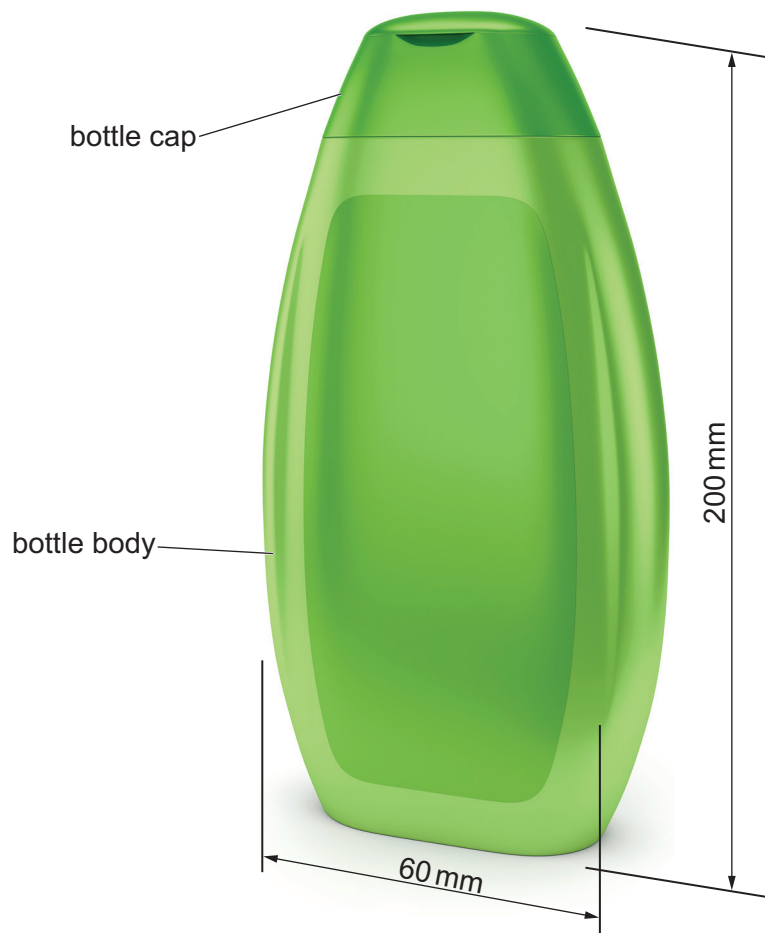

Fig. 3
3 Fig. 3 shows the design of a shampoo bottle.
- (b) Use annotated sketches and/or notes to show how you would make an actual size block model of the shampoo bottle shown in **Fig. 3** in the school/college workshop.
- (c) Use annotated sketches and/or notes to show how the hollow bottle body shown in **Fig. 3** would be manufactured as a batch of 100 000 from a **thermoplastic** material.